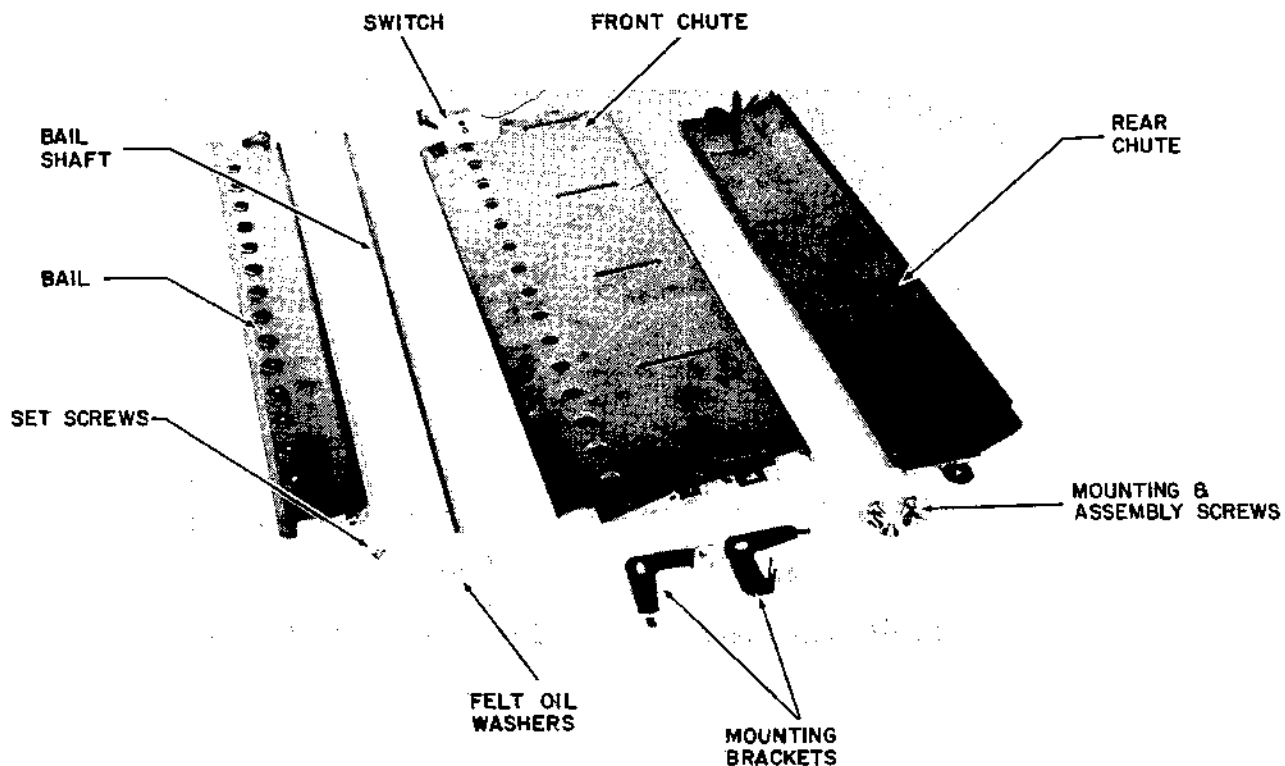

Figure 5-39 BOTTOM FEED PAPER CHUTE ASSEMBLY PARTS
1. Assemble and identify the various parts needed for installation of this part of the option, as shown in Figure 5-39.